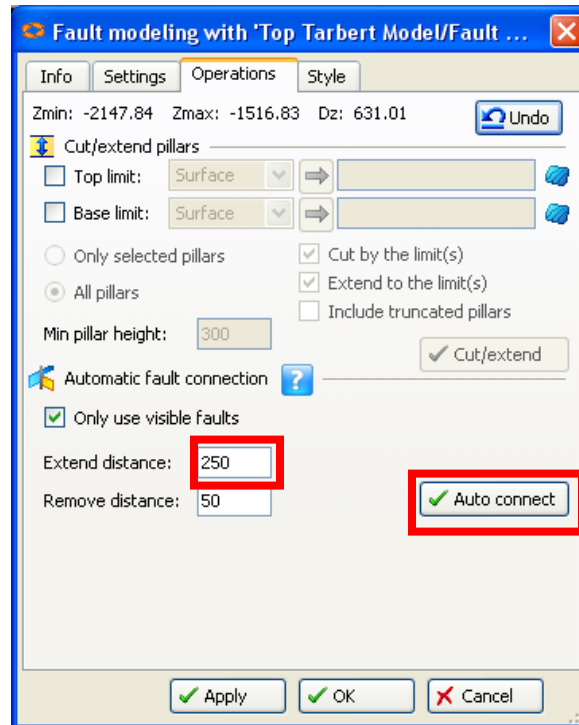

Fig. 11.37: Fault Modeling dialog box is displayed
3. Go to the **Operations** tab and click on the **Auto connect** button and use an **Extent distance** of **250m** and do the automatic fault connection only for the visible faults. See Fig. 11.37.